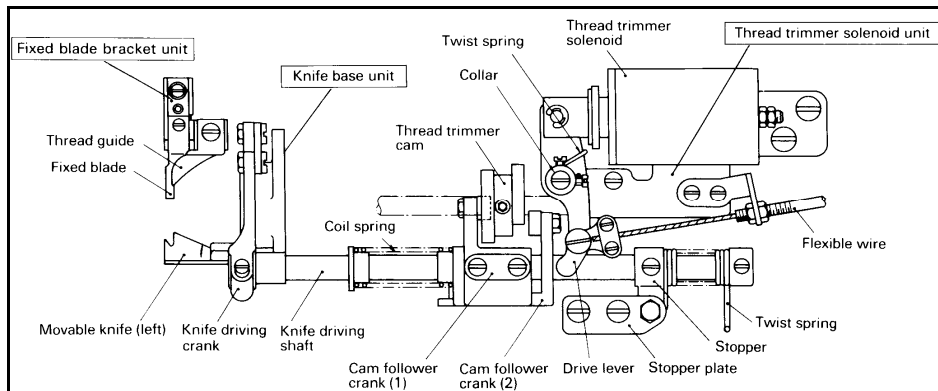

Fig.30
- 1) The thread trimmer mechanism illustrated as Fig.30.